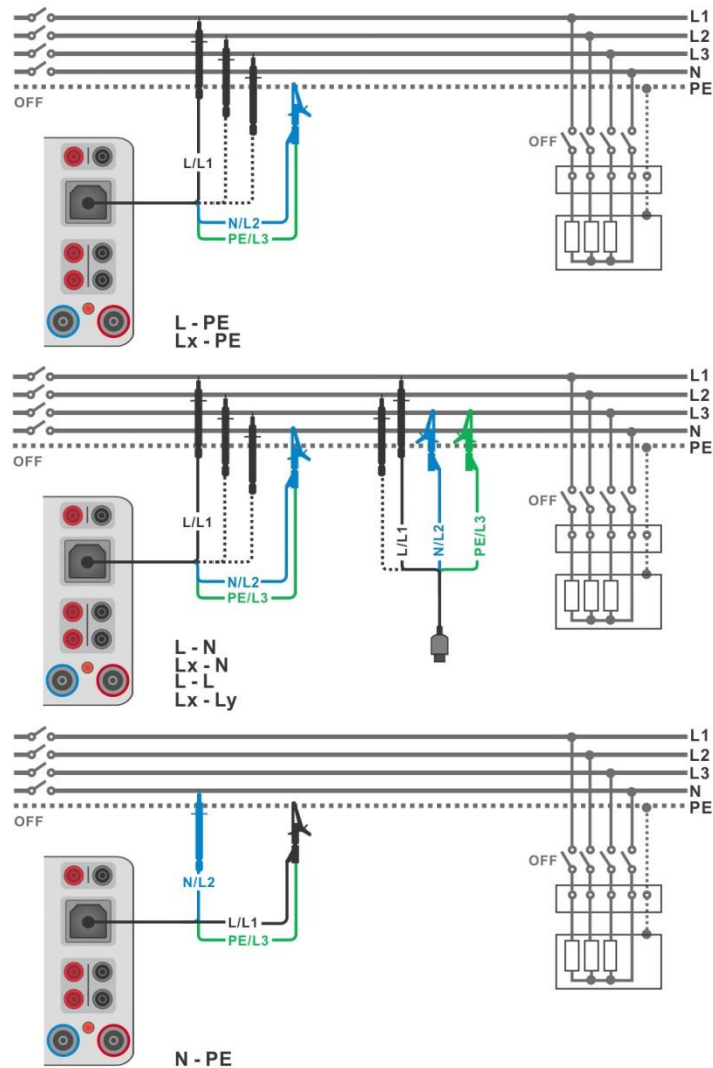

Figure 6.31: Connections of 3-wire test lead
- › Connect 3-wire test lead to object under test. (See **Figure 6.31**).